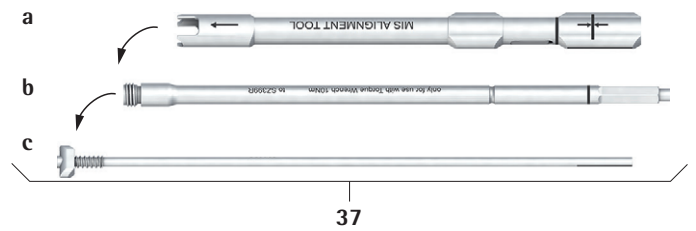

Fig. 50
- ▶ Pull inner shaft **c** out of threaded shaft **b** of the alignment tool **37**, see Fig. 50.